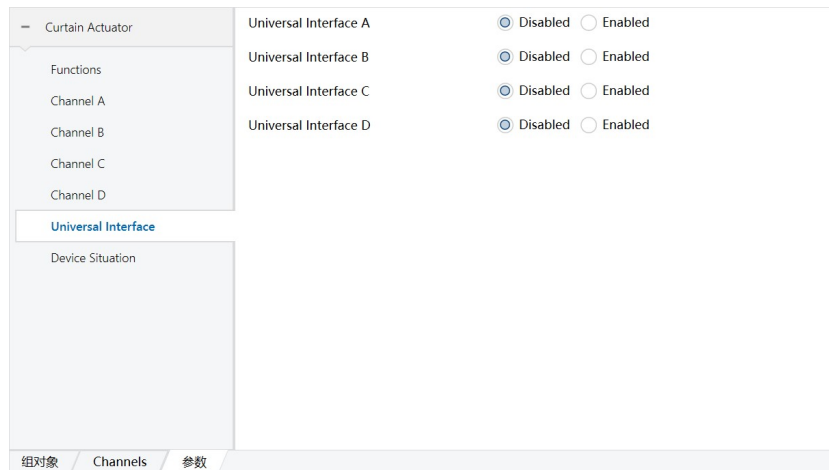

Figure 6.2.1
1) Click "Universal Interface" as shown in Figure 6.2.1, Universal Interface A-D is set to enable, four dry contact interfaces will be enabled.